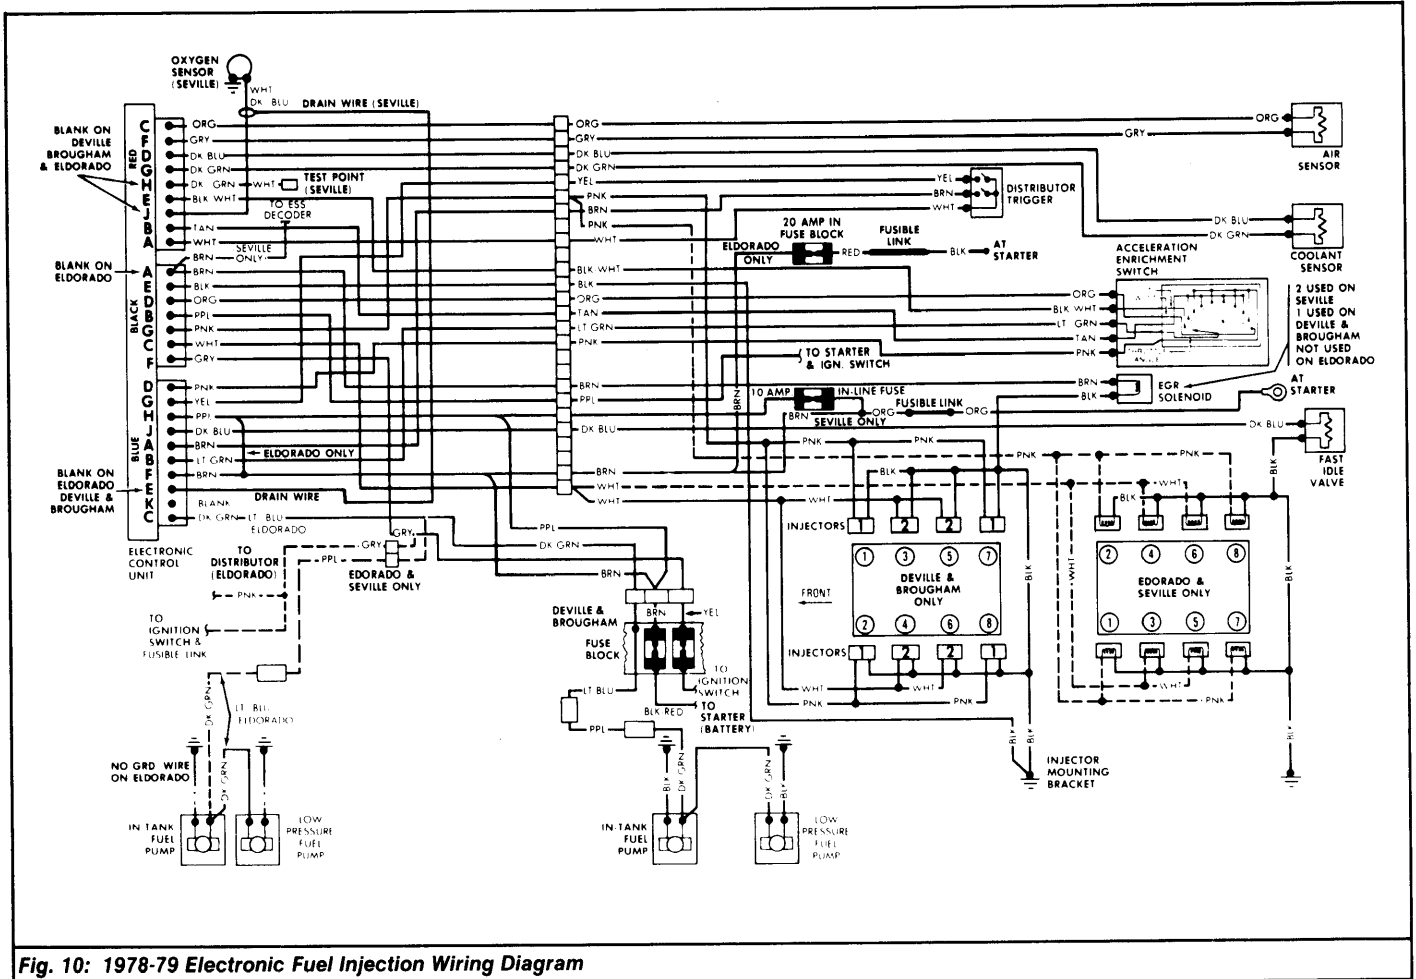

Fig. 10: 1978-79 Electronic Fuel Injection Wiring Diagram
- 1) Check for open circuit in Yellow or Yellow/Black wire (Gray wire at ECU) from fuse block to ECU. See Fig. 10. Also check for poor connection at ECU harness, which is located below instrument panel, near ECU.